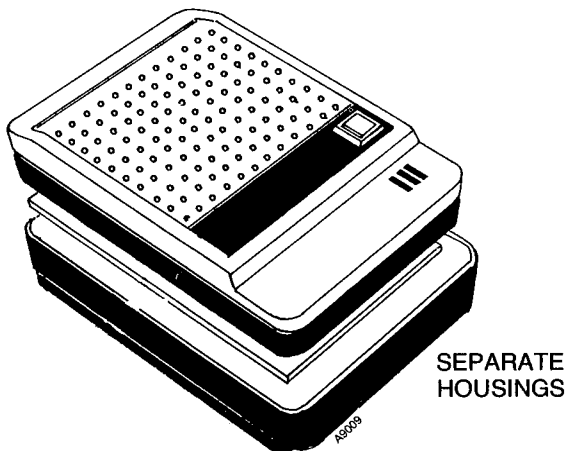

Figure 1 SEPARATING BASE AND COVER,
- *Separate the base and cover of the unit by placing a screwdriver in the slots at the top and prying the base from the cover ( Figure 1 ).*